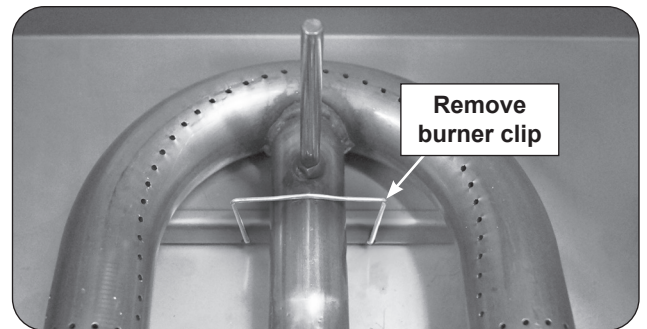

Fig. 46-2 Burner clip removal
2. Locate the burner clip (located over the rear center tube of the burner) and slightly pinch and remove the clip from the burner support (see Fig. 46-2).